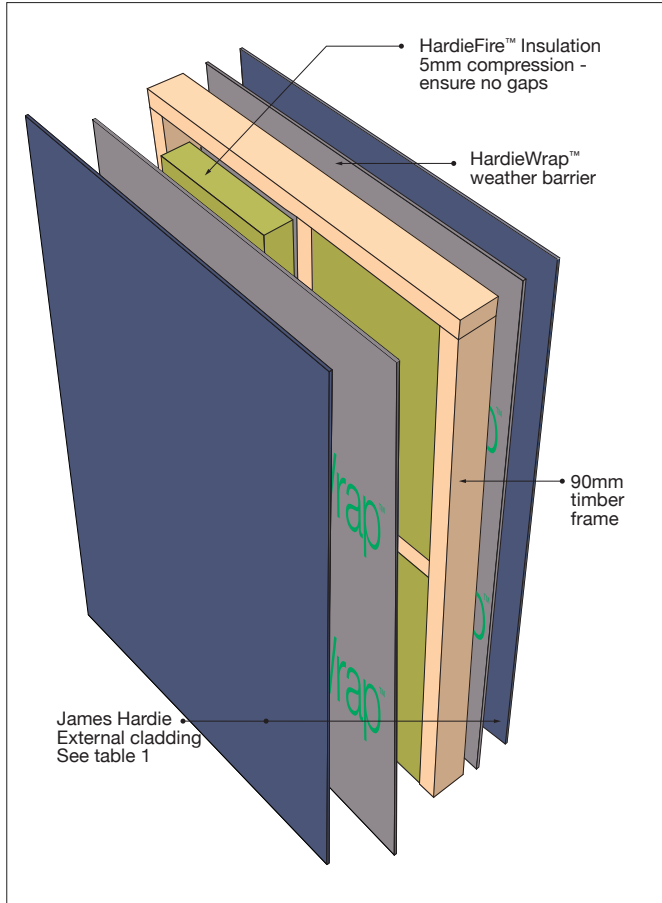

FIGURE 1 HARDIESMART™ BLADE WALL SYSTEM
- 3. HARDIEFIRE™ INSULATION:** It must be used as the frame cavity infill and must be compressed 5mm at a minimum in both vertical and horizontal directions (i.e. Batt size must be at a minimum 5mm wider and longer than frame stud bay). Ensure there are no gaps in the installation. Please refer to figure 1 for more information on installation. If cutting is required, it is recommended to cut outdoors. If indoors, please ensure that workspace is properly ventilated or HEPA vacuums/dust extractors are used.